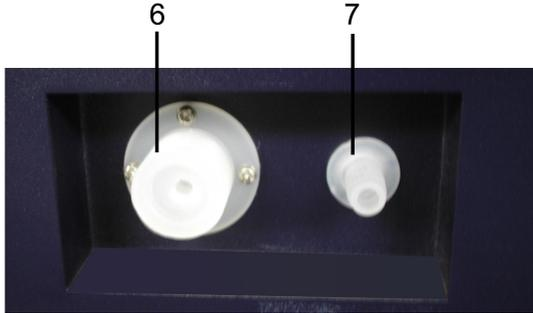

Figure 2 View of left side
**According to the view of left side (figure 2):**